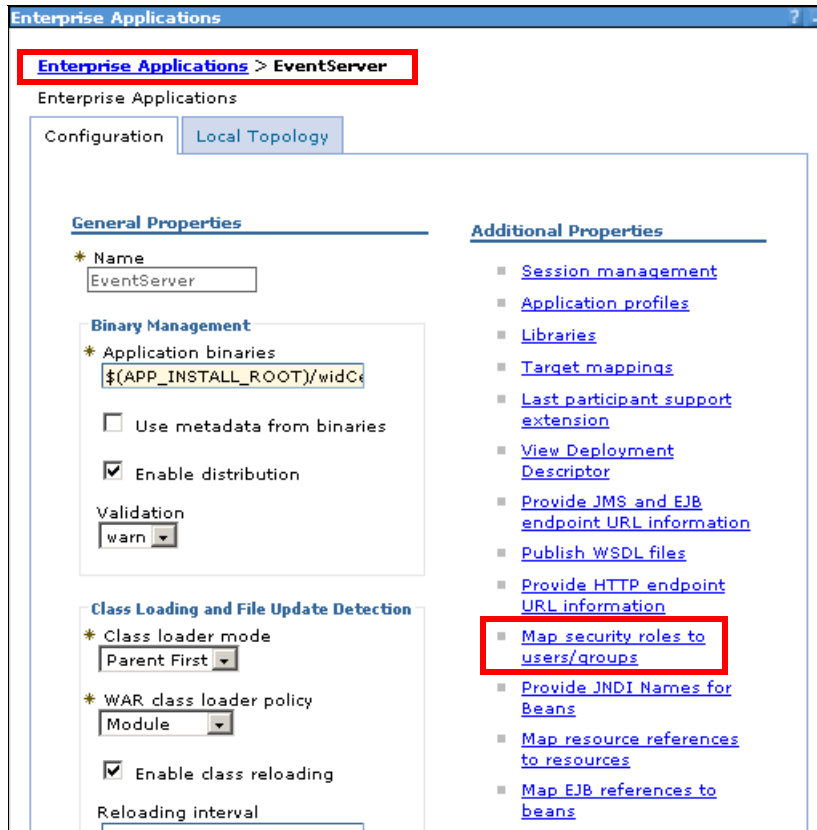

Figure A-35 Mapping security roles for the event server
- ▶ From the Additional Properties, select *Map security roles to users/groups* (Figure A-35).